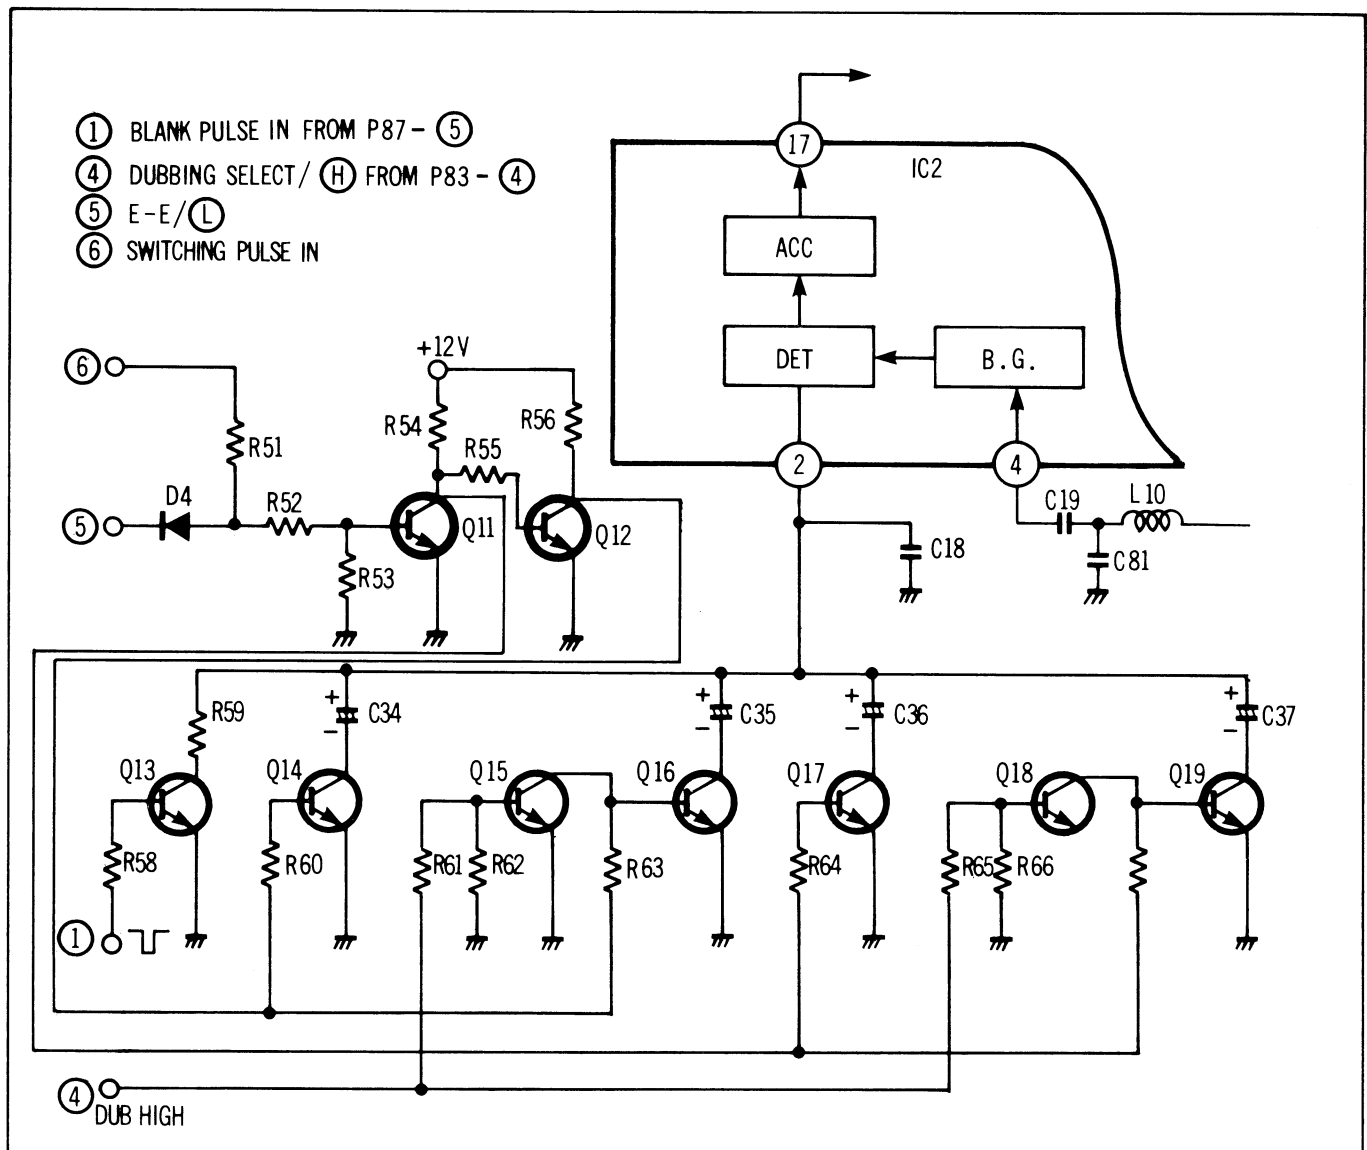

Figure 2-114
During playback, the detected burst passed by the burst gate circuit is detected and converted to a DC level, which is stored in C34, C35, C36 and C37. Q14 and Q16 turn on during A head period and Q17 and Q19 turn on during B head period as shown in Fig. 2-114. And R59 performs as the discharge except during the blanking pulse period. The object of this circuit is to minimize the color gain slew factor which occurs at the switching point, due to the unbalanced envelope of A and B heads.
During the E-E mode, a low level from P83-(5) is supplied to D4 to inhibit the headswitching signal and only C36 and C37 are active. See Figure 2-114.
Actually this system consists of one closed loop within another closed loop as shown in Figure 2-114.
In the ACC circuit the blank pulse inverted by Q24 removes the discharge resistor R59, since there is no burst directly after head switching and a gain loop adjustment can not be made. This allows the previous charge to remain in C34-37. (See Fig. 2-114)